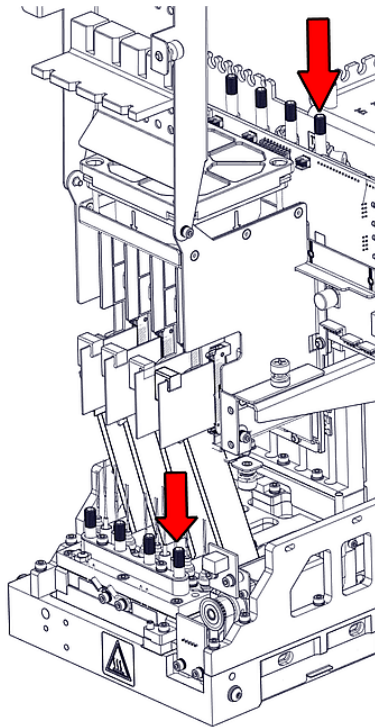

Figure 4-98 Releasing the print head
19. Tighten the upper and lower screws that secure the print head in the print block (see Figure 4-98 on the previous page).